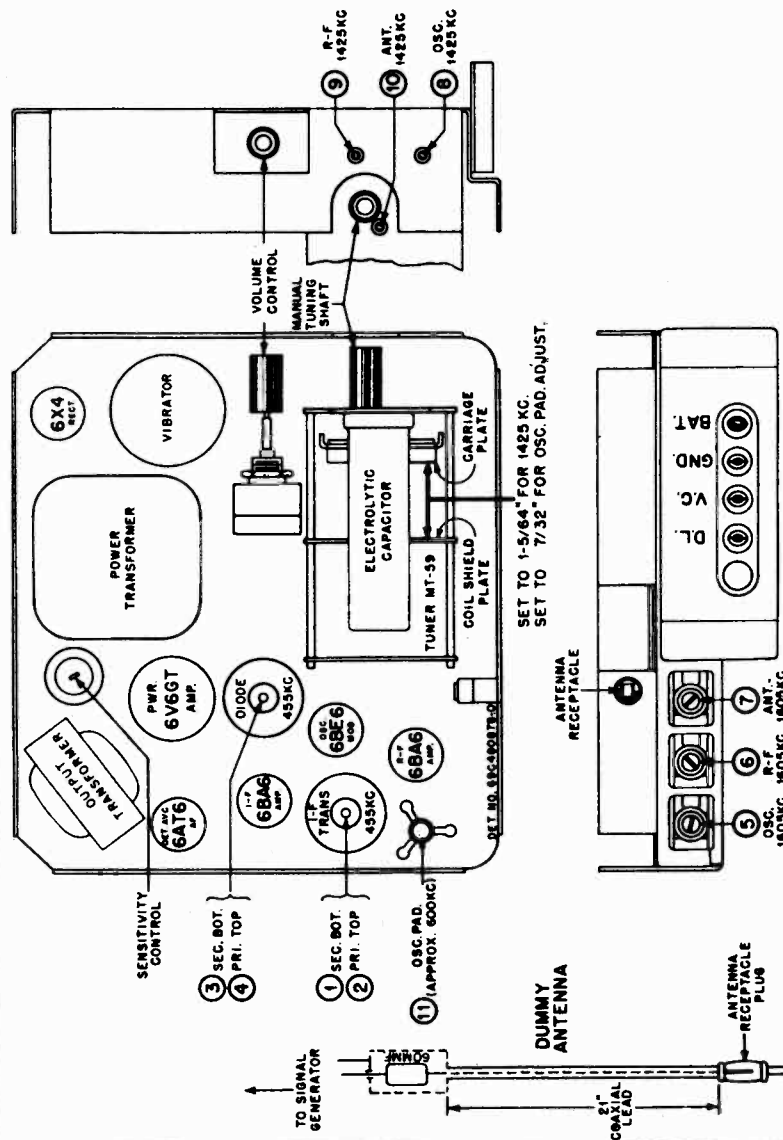

FIGURE 1. TUBE & TRIMMER LOCATIONS
5. A special dummy antenna for RF alignment. Construct dummy antenna as shown in Figure 1. The 21" coaxial lead needed in its construction is the same type as used for lead-in on Motorola car antennas.